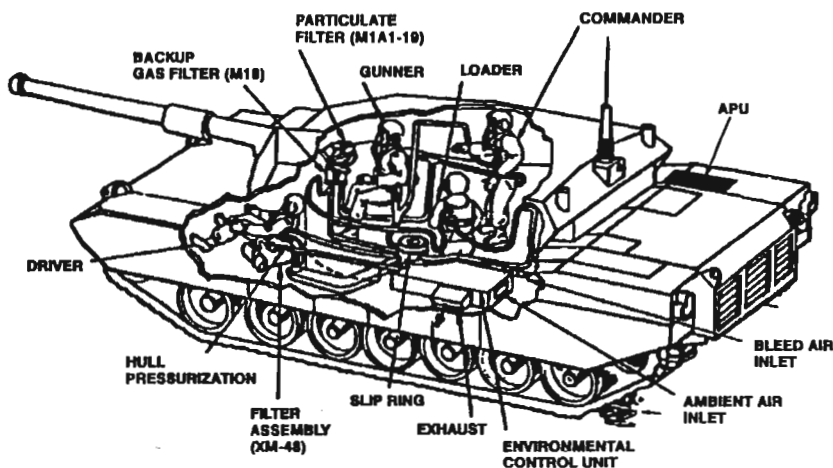

Figure 2
- Under armor capability (Figure 2) in battery box.